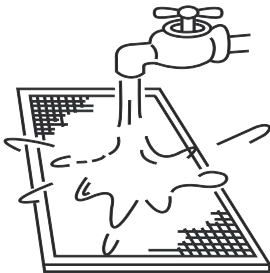

Figure 13.4
- The air intake side should face down when using clean water. (Refer to Fig.13.4)